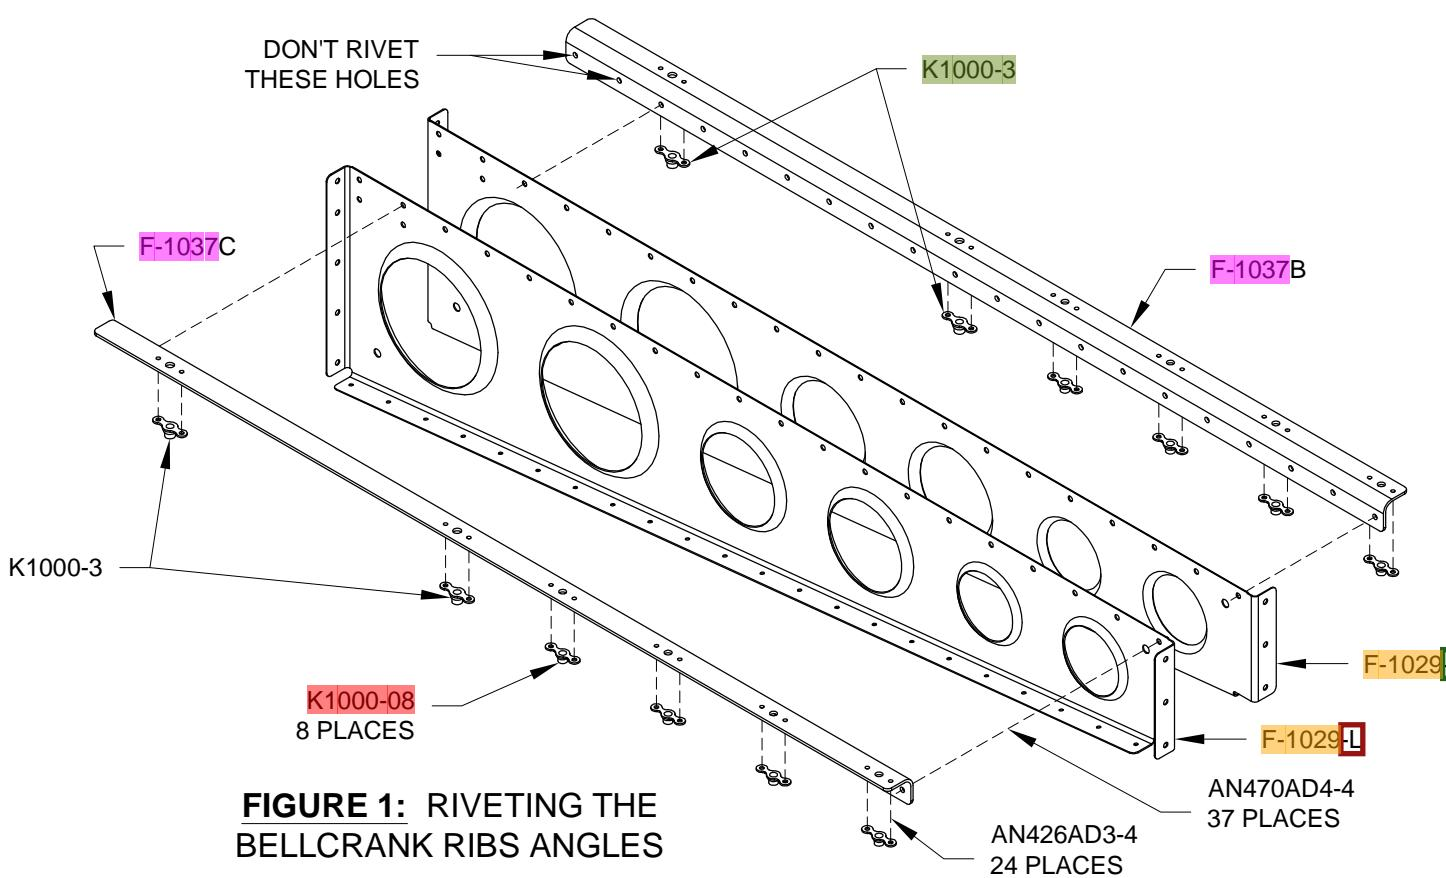

FIGURE 1: RIVETING THE BELLCRANK RIBS ANGLES
Step 1: Rivet the nutplates shown in Figure 1 to the F-1037B & C Bellcrank Rib Angles using the rivets called out.
Step 2: Rivet the F-1037B & C Bellcrank Rib Angles to the F-1029R & L Bellcrank Ribs respectively using the rivets called out in Figure 1. Don't install rivets into the two forward holes of the F-1037B Bellcrank Rib Angle (see figure).
Step 3: Cleco the F-1029 Bellcrank Ribs to the F-1078 Forward Bottom Skin, the F-1006 Bulkhead, and the F-1007 Frame. Rivet the bellcrank ribs to the skin using the rivets called out on Page 10-25, Figure 1. Rivet the bellcrank ribs to the F-1007 Frame using AN470AD4-4 rivets. Do not rivet to the F-1006 Bulkhead.